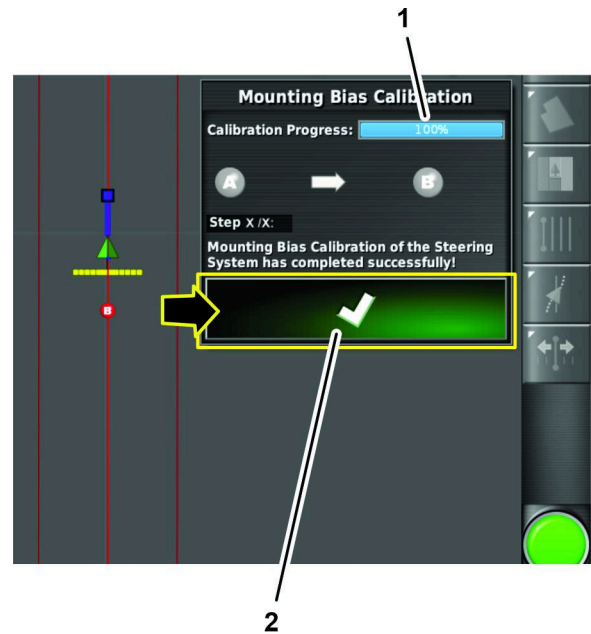

Figure 172
- The dialog box indicating 100% calibration progress, press the confirm icon (Figure 172).